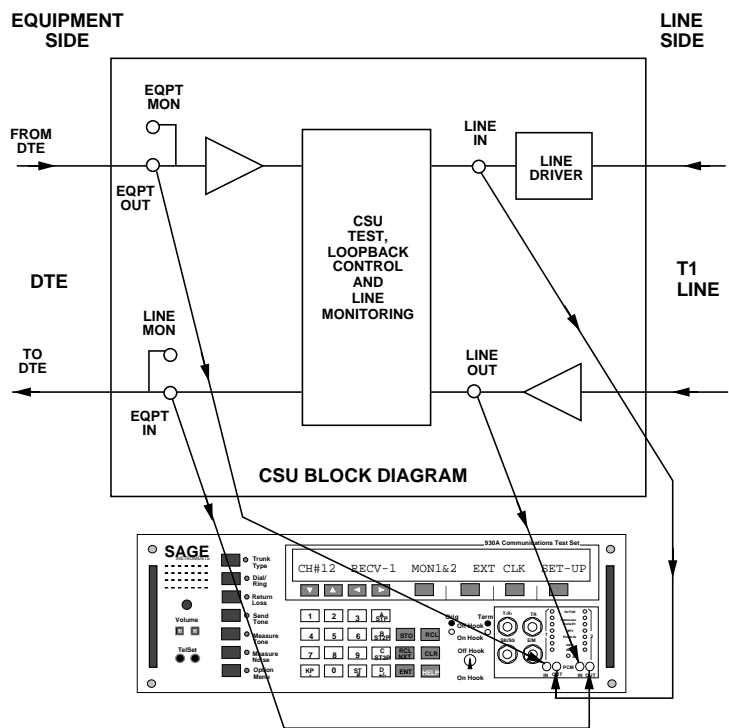

Figure 4-6
3. Connect test cords from the **935AT** outputs to the **CSU LINE IN** and **EQPT IN** jacks. Refer to **Figure 4-6**.